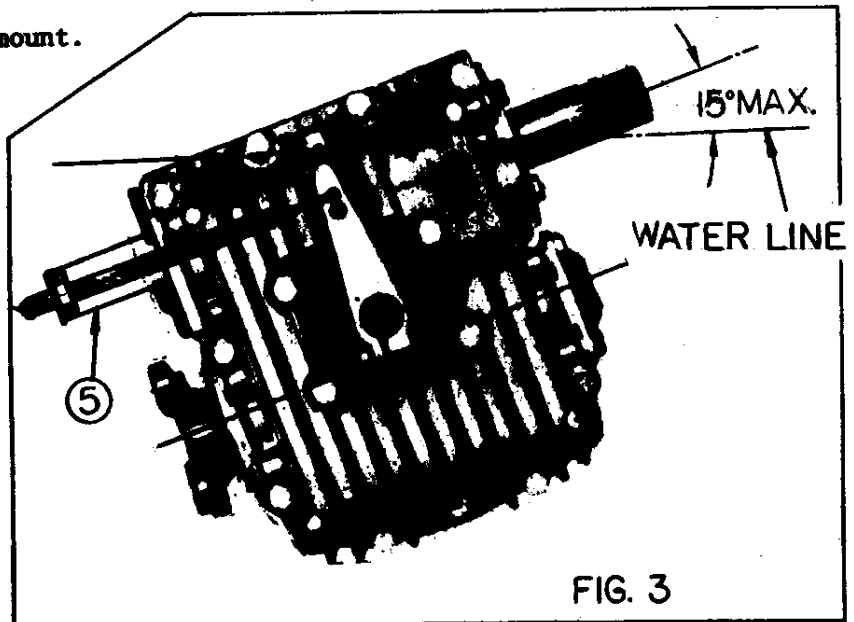

FIG. 3
(See illustration Fig. 3).
Shift lever: Upon loosening the retaining screw (3), the shifting lever, item (2), can be rotated as required to meet the control cable connection. The operating cable or rod assembly should be positioned perpendicular to the shifting lever in its neutral position (Fig. 3).